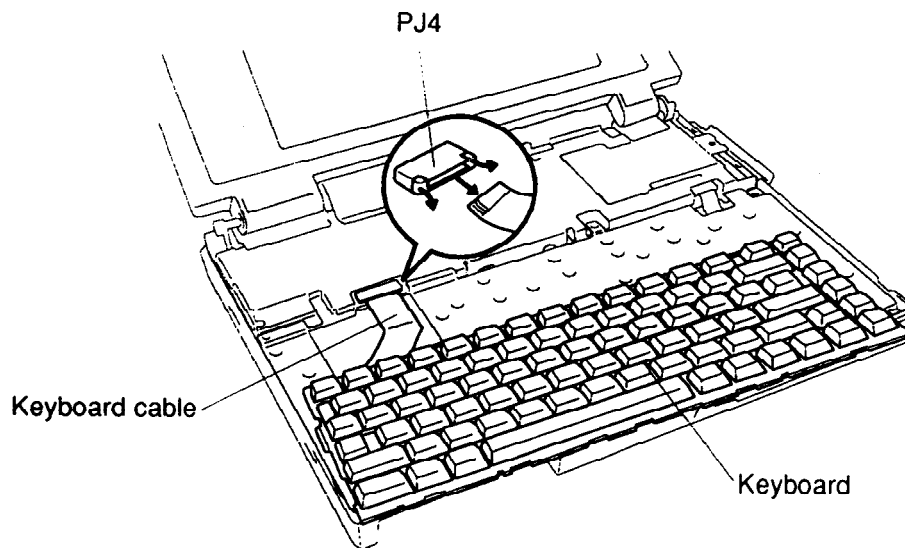

Figure 4-7 Removing the Keyboard
To remove the T1900/T1900C's keyboard, follow the steps below and refer to Figure 4-7.
To install the T1900/T1900C's keyboard, follow the steps below and refer to Figures 4-7 and 4-8.
1. Connect the **keyboard cable** to **pressure-plate connector PJ4** on the upper system board (Figure 4-7).